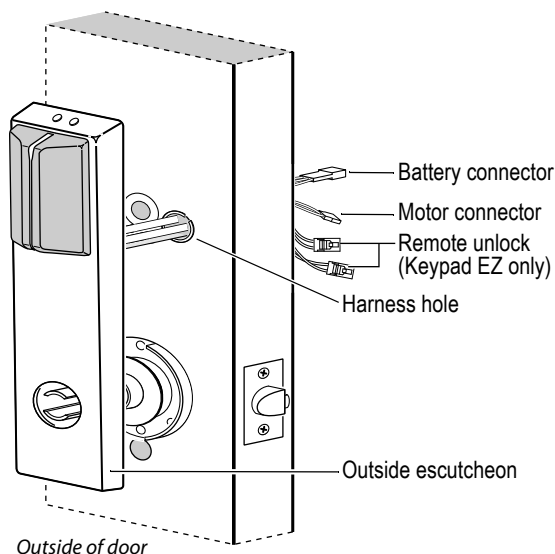

Figure 13 Feeding the wire harness connectors through the harness hole (Offline G/V Series Lock shown)
- 1 From the outside of the door, feed the motor connector, battery connector, and Keypad EZ remote unlock wires through the harness hole one at a time, as shown in Figure 13.